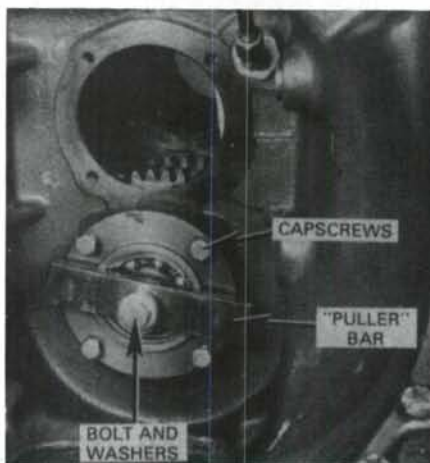

Fig. 209—Pto lower shaft is drilled and tapped at front end for installation as shown.
When assembling, make sure that snap ring (57) is installed in inner bore of drive gear and that hub side of gear faces forward. Front end of pto shaft contains a threaded hole which can be used to pull shaft into front bearing as shown in Fig. 209. Apply nonhardening sealer to threads of retainer cap screws, install cover plate with new "O" ring and tighten cap screws evenly to 60 N·m (45 ft.-lbs.) torque.